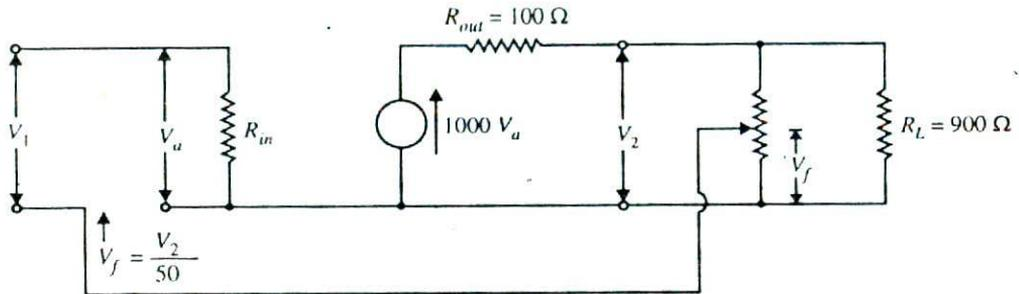

Fig. 15.5
**Solution.** Fig. 15.5 shows the equivalent circuit of an amplifier along with the feedback circuit.